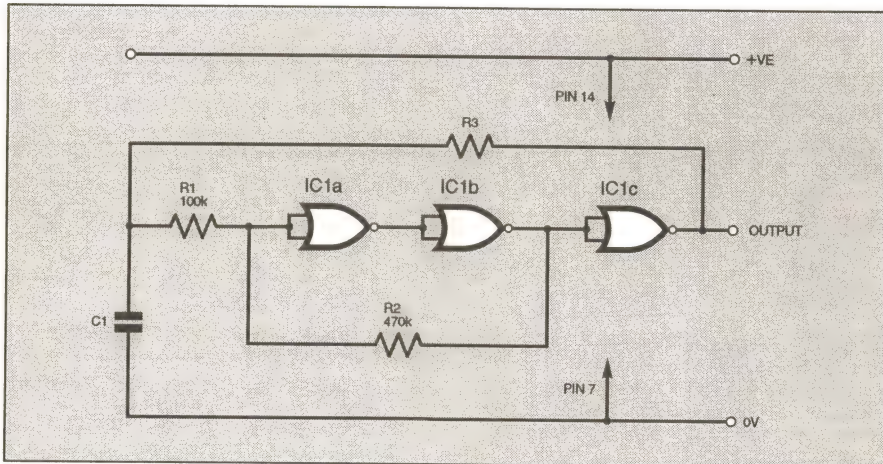
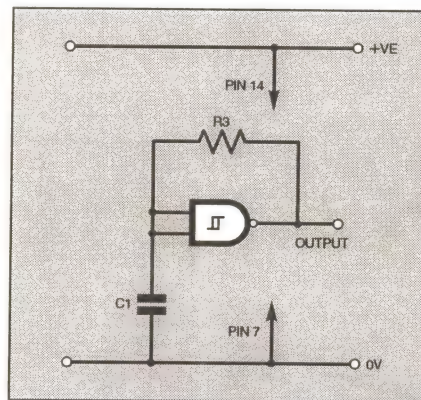
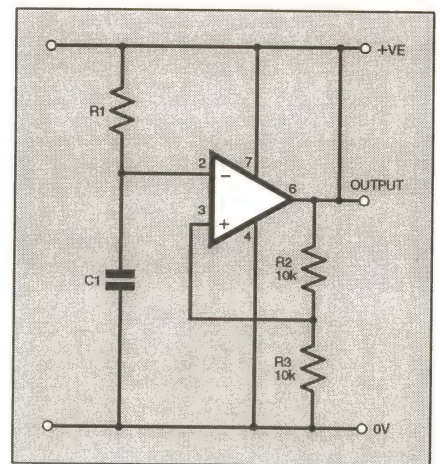

Fig. 4.8. A more reliable square wave oscillator.
Fig. 4.9. Schmitt trigger oscillator.
Fig. 4.10. Op.amp relaxation oscillator.
If a better square wave output without glitches is required, a third gate may be used as shown in Fig. 4.8.
The circuit of Fig. 4.8 could be simplified by using a single 2-input Schmitt NAND gate, as shown in Fig. 4.9. The CMOS 4093 chip houses four 2-input Schmitt NAND gates, and the CMOS 40106 houses six Schmitt NOT gates (inverters).
An improved square wave oscillator circuit is shown in Fig. 4.8. As can be seen, a third NOR gate is required but the circuit always self-starts at power on, and produces a glitch-free output. Two considerable advantages!
In general terms, and assuming that the values of R1 and R2 are as shown in Fig. 4.8, the frequency will be given by:
To sum up the improved square wave oscillator circuits of Fig. 4.8 and Fig. 4.9:
- Single Schmitt gate can be used for Fig. 4.9
- An extra gate is required for Fig. 4.8
Like the last two modules, Fig. 4.8 and Fig. 4.9, the op.amp relaxation oscillator circuit shown in Fig. 4.10 is always self-starting at power on and provides an output free of glitches.
To sum up the op.amp relaxation oscillator in Fig. 4.10: